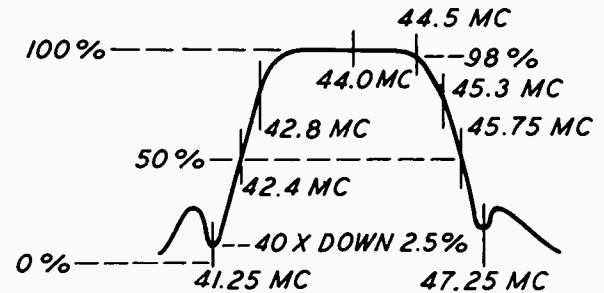

Fig. 7—Overall Response Curve
- C. After these adjustments have been made recheck the peak to peak output on the oscilloscope. If the shape of the curve is not as shown in figure 7, it will be necessary to retouch the adjustments. A small fraction of a turn is all that is necessary if the strip is operating correctly. The position of the 44.5 Mc marker is critical (98%). The 44.0 Mc transformer (3rd I-F) controls the symmetry of the top. The 45.3 Mc transformer (2nd I-F) controls the height of the 45.75 Mc marker. The 42.8 Mc transformer (1st I-F) controls the height of the 42.4 Mc marker. This adjustment will very seldom need retouching.